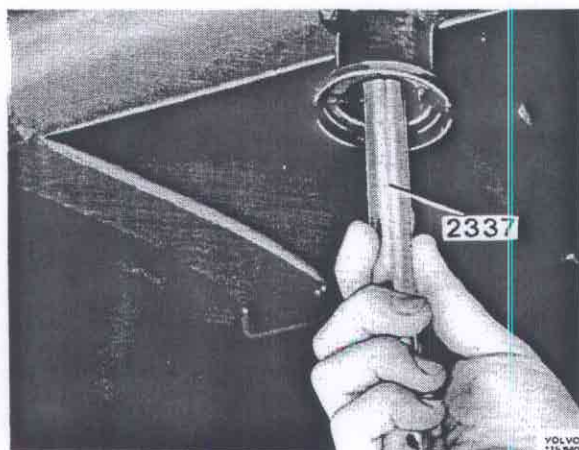

Fig. 64-27. Removing the upper bushing
7. Knock out the upper bushing (7) with drift 2337, see Fig. 64-27.